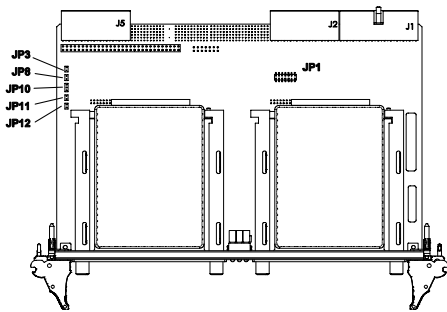
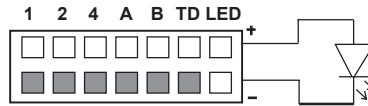

Figure 1 Jumper Locations
Figure 2 JP1
1. Set the SCSI ID before installing the SC6M in the cPCI chassis. JP1 is a set of option jumpers and used to configure the internal SCSI ID, options, and to power an external LED. Refer to Figure 1 for the location of JP1 and Table 2 for valid SCSI ID numbers and jumper combinations. Figure 2 shows JP1 pins.
SCSI disconnects are controlled by the SCSI host adapter and are enabled by default. Without using the host adapter controls, disconnects can be disabled by installing a jumper on pin labeled "B" on JP1 in Figure 2.
The last jumper on the right of JP1 on Figure 2 is used to install a remote-mounted LED without external power or resistors. The output is active low and includes a 120 Ohm current-limiting resistor.
The JP3 jumper is used to set Single Ended or Low Voltage Differential. LVD mode is enabled by default. To enable SE mode and disable LVD mode, place a jumper on JP3. Refer to Figure 1 for the location of JP3.
The JP8 jumper is used only for the external SCSI bus through RJ5 on the SC6RTB. External rear I/O termination is enabled by default and can be disabled by placing a jumper on JP8. Refer to Figure 1 for the location of JP8.
The JP10 jumper is only for the external SCSI bus through RJ5. To use external power from the SCSI cable, place a jumper on JP10 pins "1" and "2" (default). To use local 3.3V for external termination power, place a jumper on JP10 pins "2" and "3". JP10 is shown in Figure 1. If no jumper is used on JP8, one must be put on JP10 pins "1" and "2" or "2" and "3".
The JP11 jumper is used for the external SCSI bus through RJ5 on the SC6RTB. By placing a jumper on JP11, local power connects through a 1.5A resettable fuse to termination power through J5. Refer to Figure 1 for the location of JP11. This jumper is on by default.